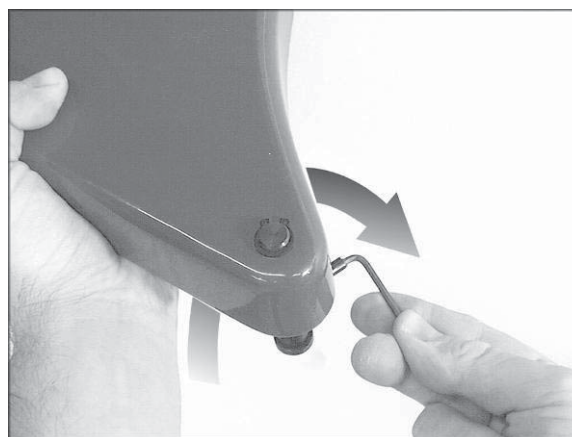

Figure 5
2. Twist the hex wrench and pin clockwise, as shown in Figure 5, and hold them there.